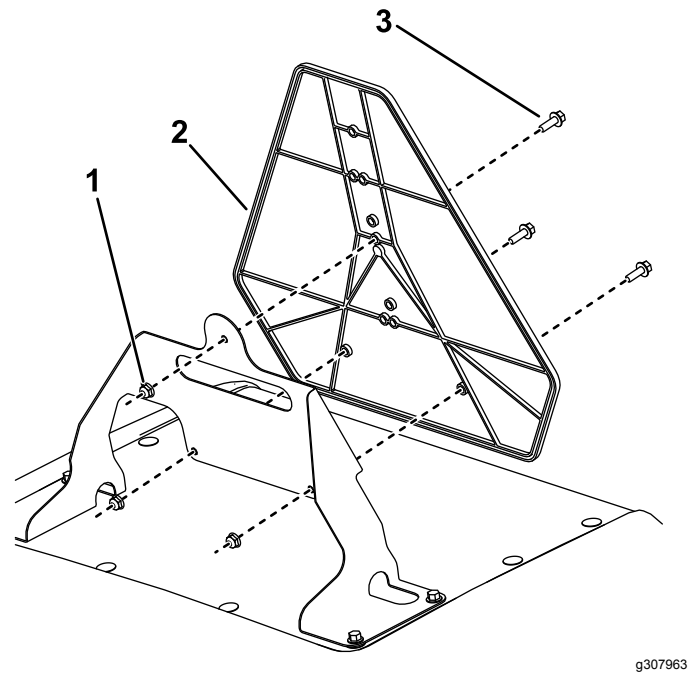

Figure 3
4. Install the slow-moving vehicle sign as shown in Figure 3.